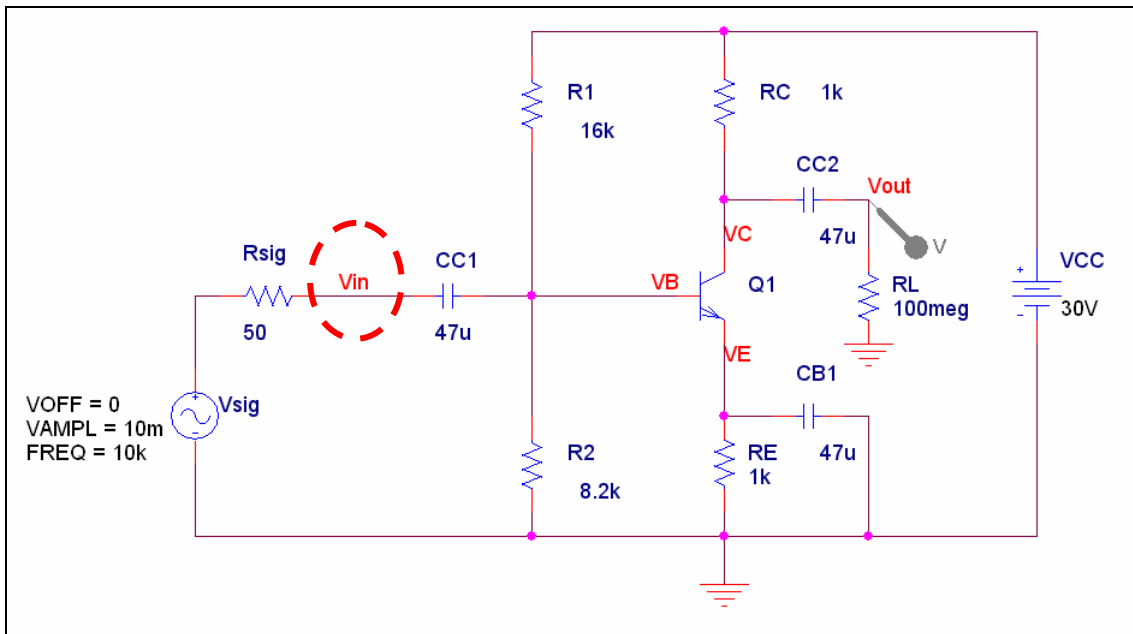

Figure P.2 – Common Emitter Amplifier
4. Using the biasing circuit you've constructed for the BJT, apply a small input signal (10mV @10kHz) to the base of the transistor, as shown in figure P.2. We refer to this signal as "**Vsig**"
- Construct circuit in figure P.2 in using transistor: 2N3904